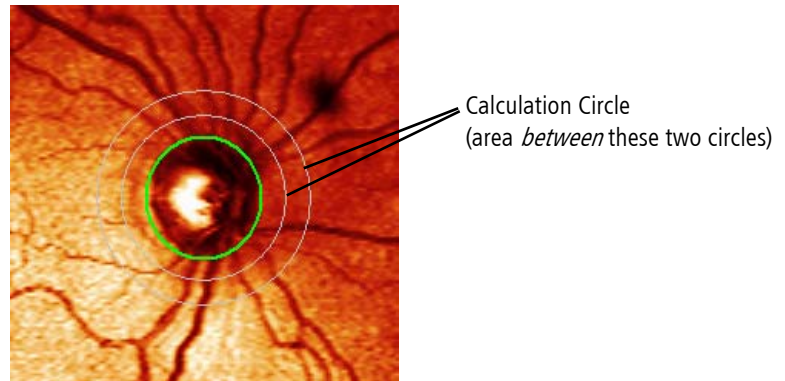
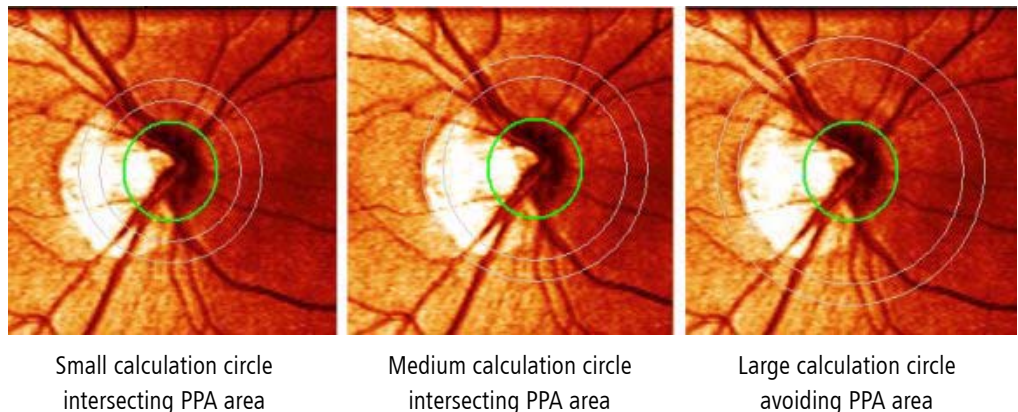

Figure 4-21 Calculation Circle
Figure 4-24 Examples of Small, Medium, and Large Calculation Circles
The Calculation Circle is the area between the two outer concentric circles on the IMAGE CHECK and other screens (Figure 4-21). This area is where measurement data is acquired for the TSNIT (Temporal-Superior-Nasal-Inferior-Temporal) and NFI parameters. By default, the Calculation Circle is set to the smallest size. It can be resized, if necessary, in order to obtain more meaningful results for patients with significant parapapillary atrophy (PPA) and scleral crescent (see Figure 4-24).
Use the following procedure to modify the size of the Calculation Circle in order to obtain higher quality measurement data for patients with PPA and scleral crescent (See Figure 4-24).
2. **Circle Small** is the default setting. You can select **Circle Medium** or **Circle Large** to resize the Calculation Circle beyond the PPA or affected area in the image. The button for the currently selected circle size is deactivated. Figure 4-24 shows examples of small, medium, and large Calculation Circles.